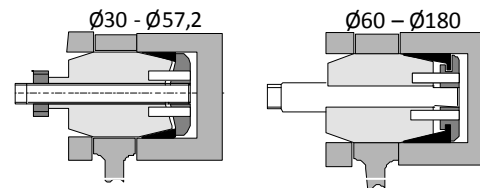

Fig. 2a
Applies to Bondura 6.1 dia. 30-57.2 mm: Unscrew the nut on the centre shaft, and remove the locking plate and taper sleeve on the service end of the bolt. Fit the nut and install the bolt in the joint (see fig. 2a).
**If the bolt is not centre-aligned, the taper sleeve may bottom out in the support before the expansion is completed. The bolt will then be partially loose, and may "cut" the taper screws and lock screws (see Fig. 2a and 2b).**